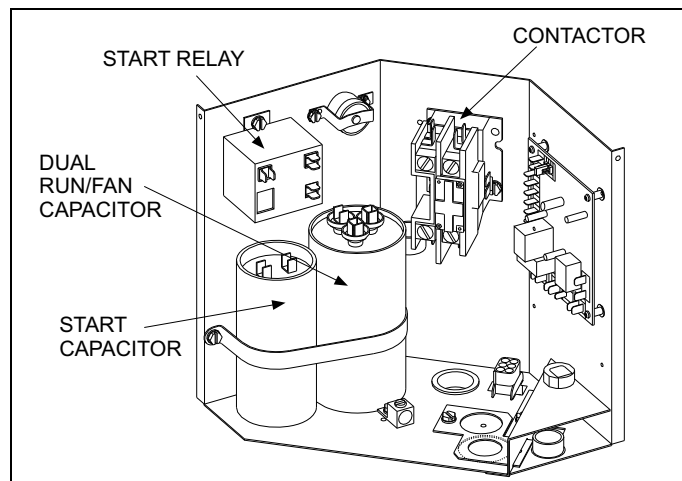

FIGURE 2
1. Use the two pilot holes on the left angled side to attach start relay. See Figure 2.